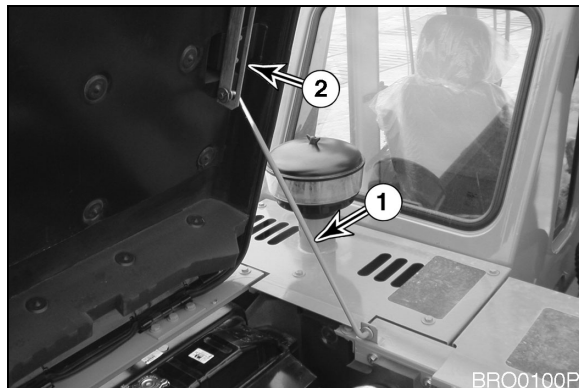

Figure 104
Open the cover and slide prop rod (1, Figure 104) in the slot (2) to support the cover.